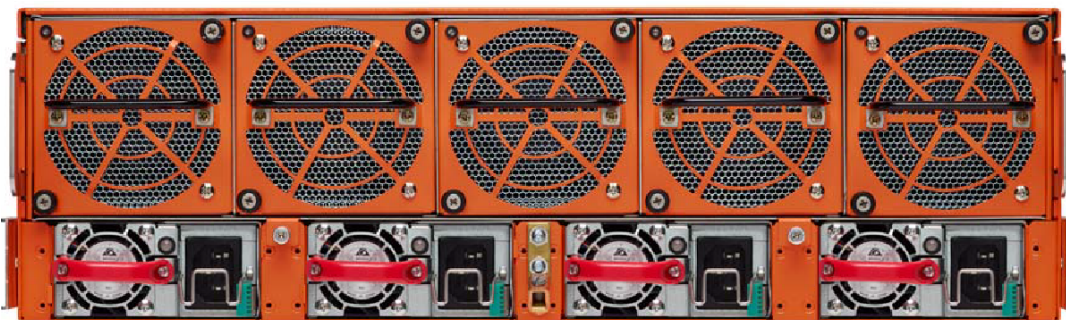

Figure 6 Four Power Supply Modules Installed
- Repeat the previous steps for the next PSM. Figure 6 Four Power Supply Modules Installed shows the GigaVUE-HC3 node with all four power supply modules installed.